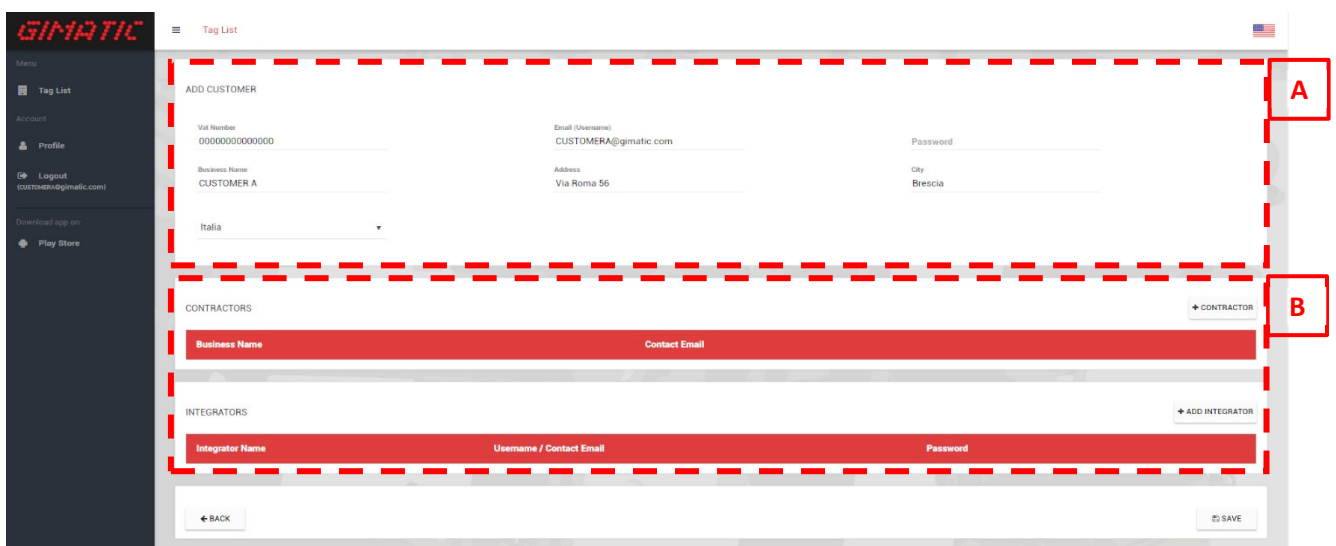
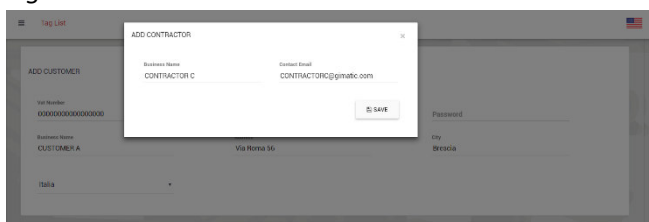
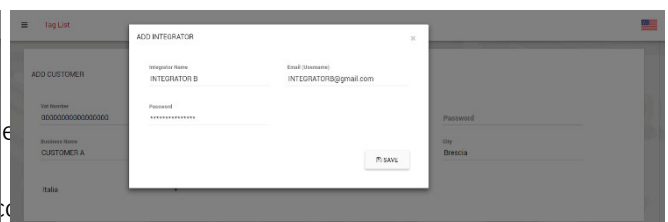

Figure 35
Figure 36
Figure 37
- A: the map shows where the tags added by the COSTUMER A are localized. Clicking on the pen  , near the customer name, it will open up the window showed in Figure 35, and there is the possibility to add integrators or contractors. If the basket  is clicked on, the customer profile will be deleted. In the upper right of this section, there is the possibility to export the .xls file with all the information related to CUSTOMER A.
To enter a contractor or an integrator, as said before, shall be clicked on the pen near the customer name, the picture below (Figure 35) shows the window that will appear. In the section A there are details concerning the CUSTOMER A. The section B underline the list of contractors and integrators already added and there is the option to assign a contractor or an integrator to CUSTOMER A. Trying to add a contractor, a chart like Figure 36 will be displayed and to complete the operation has to enter the contractor name and email. The contractor can't see the tag details assigned to himself, for these reasons it doesn't need an account. An integrator can check all the details of his tags. Therefore, the customer must enter email and password during the insertion of an integrator, like in Figure 37. The same credentials will be used by the integrator to perform the log in. Then the integrator will receive an email containing a link for the activation of the account (later on the integrator can eventually change his username and password).
- DETAILS: clicking on it, it will appear another window as can be seen in *Figure 36*;